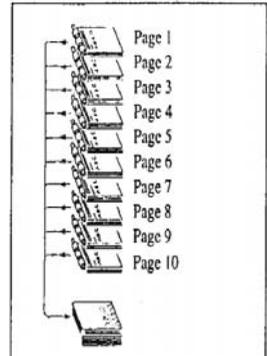

Figure 8
(2) Load paper onto the paper feed table with the printed side of paper facing upward (see Figure 8)